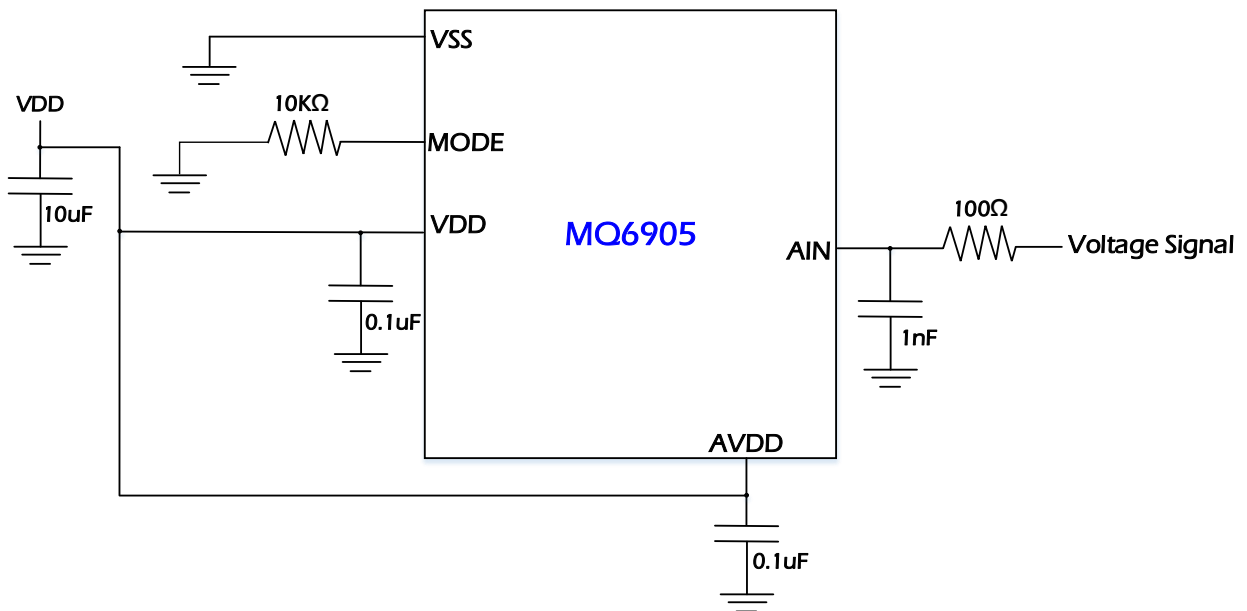

Figure 2.3 Recommended external circuit when using MQ6905 (same power source for VDD & AVDD)
7. VDD pin and AVDD pin need to be equal potential. If power source and the routing are the same, connecting 0.1uF capacitor where is near IC is recommended. (Figure 2.3)